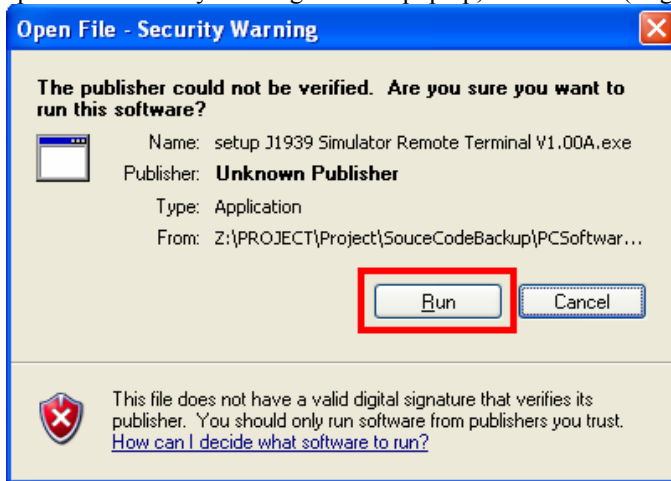

Figure A-2
2. Open file – security warning window pop up, click "Run" (Figure A-2)